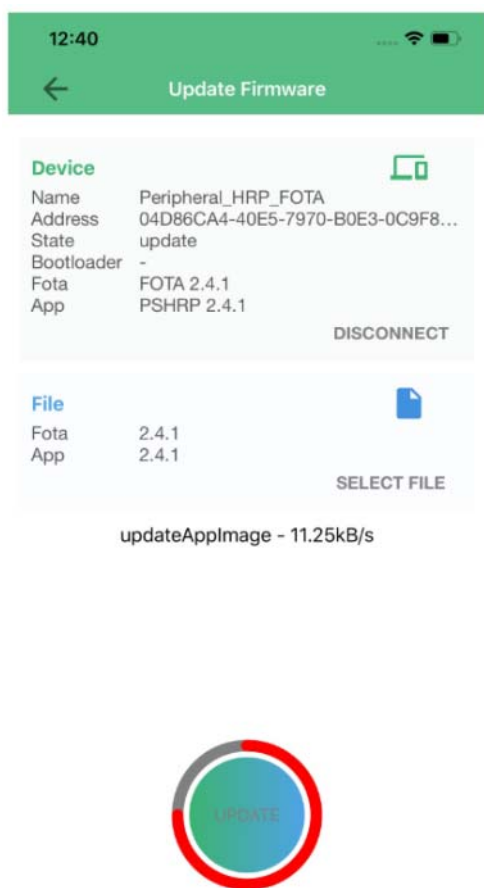

Figure 21. RSL10 FOTA Mobile Application: Updating Firmware
4. Once the FOTA firmware image file is selected, click the **Update** button (see Figure 21 on page 37).